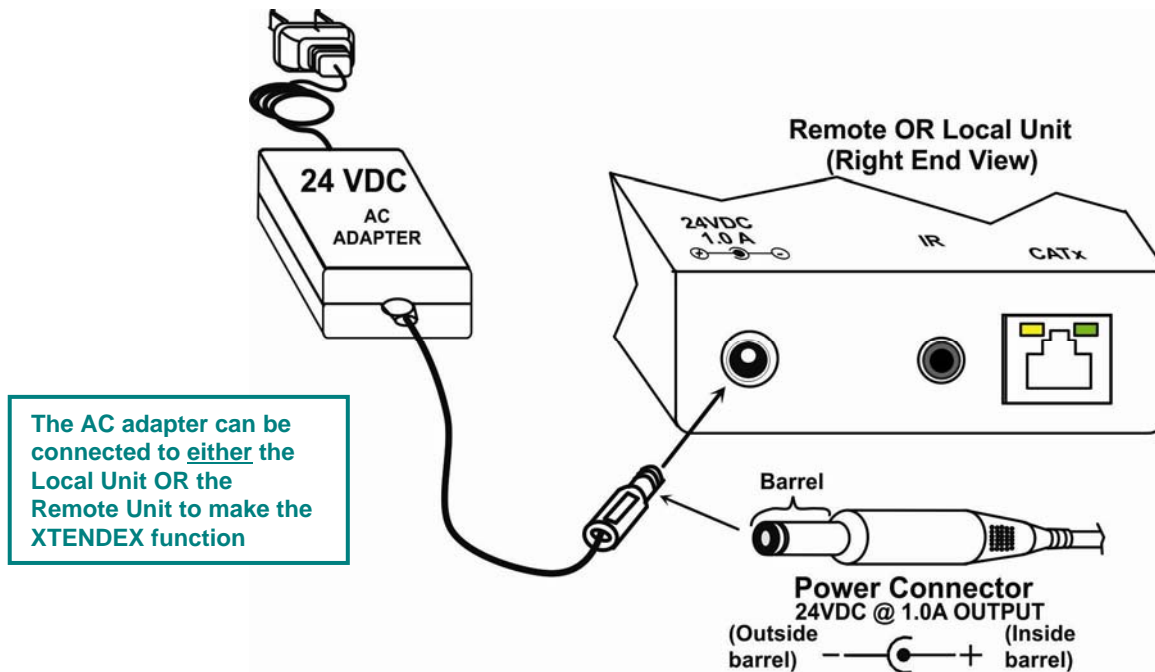

Figure 5- Connect the AC adapter to either the Remote Unit or the Local Unit
2. Connect an AC adapter power connector to the 24VDC port on **either** the Remote Unit or the Local Unit. Plug the AC adapter into a power outlet. The green LED on the RJ45 connector of both the Remote and Local Units should illuminate, indicating that a proper power connection has been made to them. (See Figure 5)